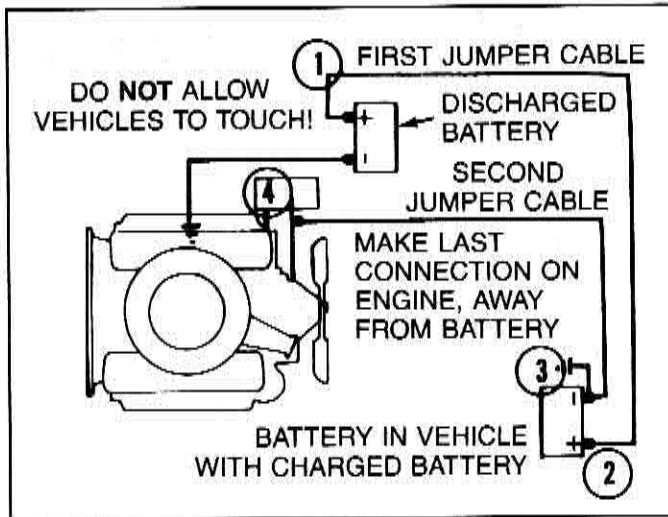

Figure 7-29 — Jump Start Cable Connections
4. Attach the end of one jumper cable to the positive terminal of the booster battery and the other end of the same cable to the positive terminal of the discharged battery (Figure 7-29). Do not permit vehicles to touch each other as this could cause a ground connection and counteract the benefits of this procedure.